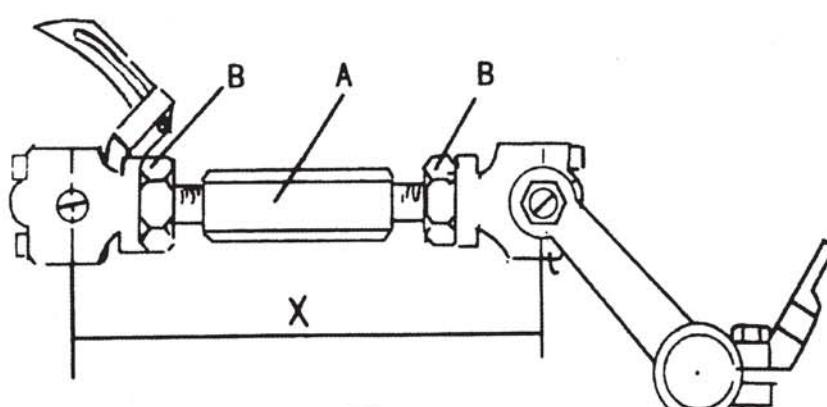
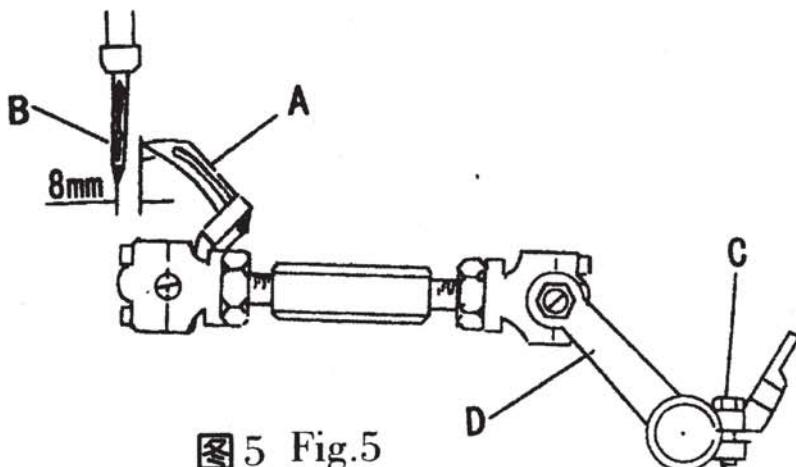
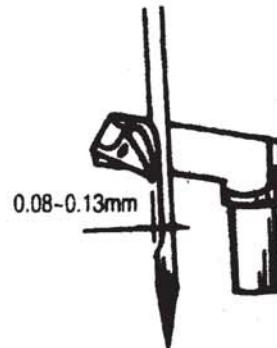
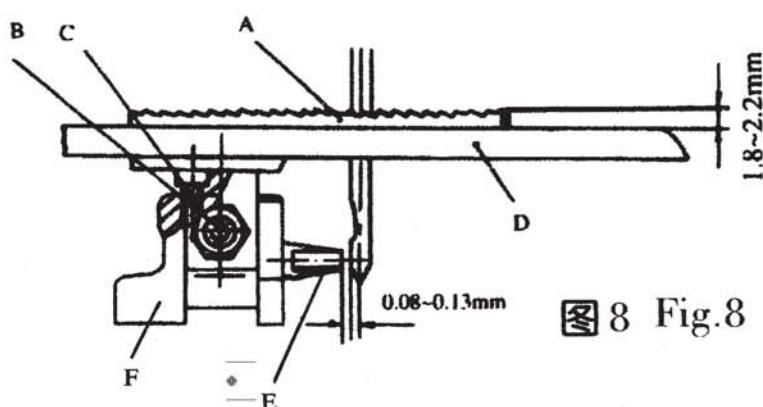

图 4 Fig.4
图5 Fig.5
图 6 Fig.6
图8 Fig.8
(一) 首先调节连接杆(图4, A), 使两球轴承(X)中心线间距为69.8毫米($2\frac{3}{4}$ 英寸), 调节时拧松二个螺母(B), 顺旋或倒旋连接杆(A)使(X)距离符合要求后再锁紧螺母。
(1). First set the looper connecting rod(A, Fig. 4), so the distance (X, Fig. 4) between the centerlines of the two ball joints is 69.8mm($1\frac{3}{4}$ min.). For adjustment loosen the two nuts(B) and turn connecting rod (A) forward or backward as required to obtain specified dimension. Retighten nuts(B). Caution: The left nut has a left hand thread.
带轮，使针杆下移至最低点，同时弯针退至最右边位置，此时弯针(图5, A)尖和机针(B)的中心线距离为8毫米($5/16$ 英寸)。调节时拧松弯针外曲柄的两只螺钉(C)，左右转动弯针外曲柄(D)，调节至需要的尺寸后再拧紧螺钉(C)。
(2). Rotate the machine pulley clockwise by hand, so that the needle bar moves to the lowest point, at the same time the looper moves back to its farthest position to the right. The distance from the point of the looper (A, Fig. 5) to the centerline of the needle is 8mm($5/16$ in). For adjustment, loosen two screws(C) in the looper drive lever, rotate looper drive lever(D) left or right as required to obtain specified dimension and retighten screws(C).
(三) 继续转动皮带轮，使弯针(图5, A)从右向左运动时靠近机针背面的凹形处通过而不得接触，其间隙为0.08毫米-0.13毫米(0.003至0.005英寸)(图6所示)。调节时拧松弯针小偏心摇杆(图4, C)的螺钉(图4, D)，按需要把弯针向前或向后摆动从而转动弯针架轴(图4, E)再拧紧螺钉(D)。
(3) Rotate the machine pulley so that the looper moves from right to left. The looper point should pass as close, possible to the back of the needle without contacting 0.08 -0.13mm(.003 to .005in.) (clearance). For adjustment loosen screw(D, Fig. 4) in the looper eccentric fork (C) and turn rocker shaft (E) on the looper rocker with looper forward or backward as required. Retighten screw (D).
缝纫时由于袋边衔接处厚度不一致，往往会使机针刺在缝料厚薄交界处而弯曲或发生故障，而机针挡块（图8E）则可起到保护作用。两者的间隙为0.08~0.13毫米（0.003至0.005英寸），（图8所示）。调整时将皮带轮按工作方向转动，使机针挡块靠近机针，拧松牙架上（图5,F）紧定螺钉（G），移动机针挡块（E）至合适间隙后再拧紧螺钉（G）。
The needle will bend or break when abutting bags made of different thickness of sewing material. And the needle guard (E, Fig. 5) will protect the needle. The clearance between the needle and the needle guard is 0.08 -0.13mm (.003 to .005in.) (Fig.8). For adjustment, rotating pulley in the direction of operating, so that the needle guard moves against the needle. Loosen set screw(G) on feed dog holder (Fig.5), move the needle guard accordingly. Retighten screw (G).
根据缝料质量与厚度确定送料牙（图8, A）高度。对于布袋、塑料编织袋等薄料，齿面应高出针板(D)上平面约1.8毫米(0.070英寸)，麻袋约2.2毫米(0.090英寸)，调整时先将送料牙行至最高点，卸下针板和送料牙。按需要的高度调节支承螺钉(C)后，重新装上送料牙和针板，并固紧六角螺母(B)。
The height of the feed dog(A, Fig. 8) are determined by the quality and thickness of the sewing materials. For closing thin material such as bags made of cloth and plastic, teeth should project 1.8mm (.070in), above the throat plate(D) top surface, and for sacks about 2.2mm (.090) above the throat plate. For Setting, move the feed dog to the highest position, remove throat plate and feed dog, adjust the supporting screw (C) as required, remount the feed dog and throat plate. Retighten nuts (B).